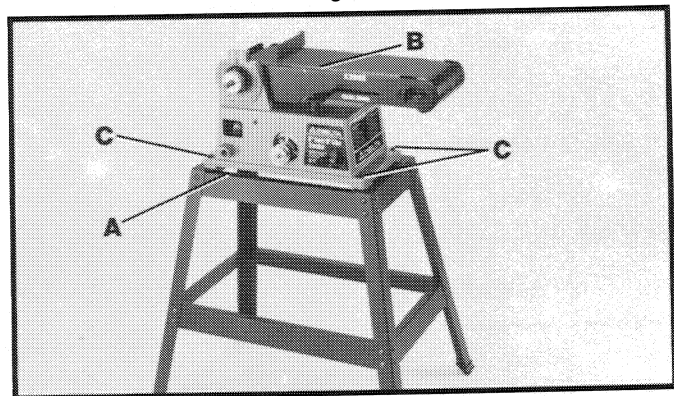

Fig. 5
Carefully set the sander on the stand. Align the four holes on the top of stand (A) Fig. 5, with four mounting holes at the base of sander (B) and fasten sander (B) to stand (A) with four M8 x 45mm hex head screws (C), three of which are shown, 8 flat washers and hex nuts.